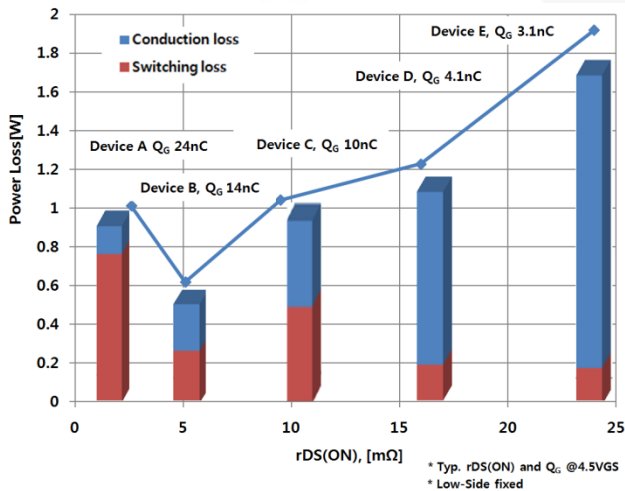

Figure 3. Power Losses of High-Side MOSFET by RDS(ON) and QG
Selection of the high-side MOSFET is critical to achieve maximum efficiency because of the narrow duty cycle of 12 VIN to 4.2 VOUT. As a general rule, the high-side MOSFET can be selected at the sweet spot of key parameters where conduction loss is almost equal to switching loss. Figure 3 shows the simulated power loss distribution of five MOSFETs with different RDS(ON) and QG values under the condition of 12 VIN, 4.2 VOUT, 380 kHz, 12 A IOUT. Device B shows the lowest power loss, but has higher QG than Device C and D and higher RDS(ON) than Device A. Device C shows balanced power losses between conduction and switching(1), but the total loss is larger than Device B.